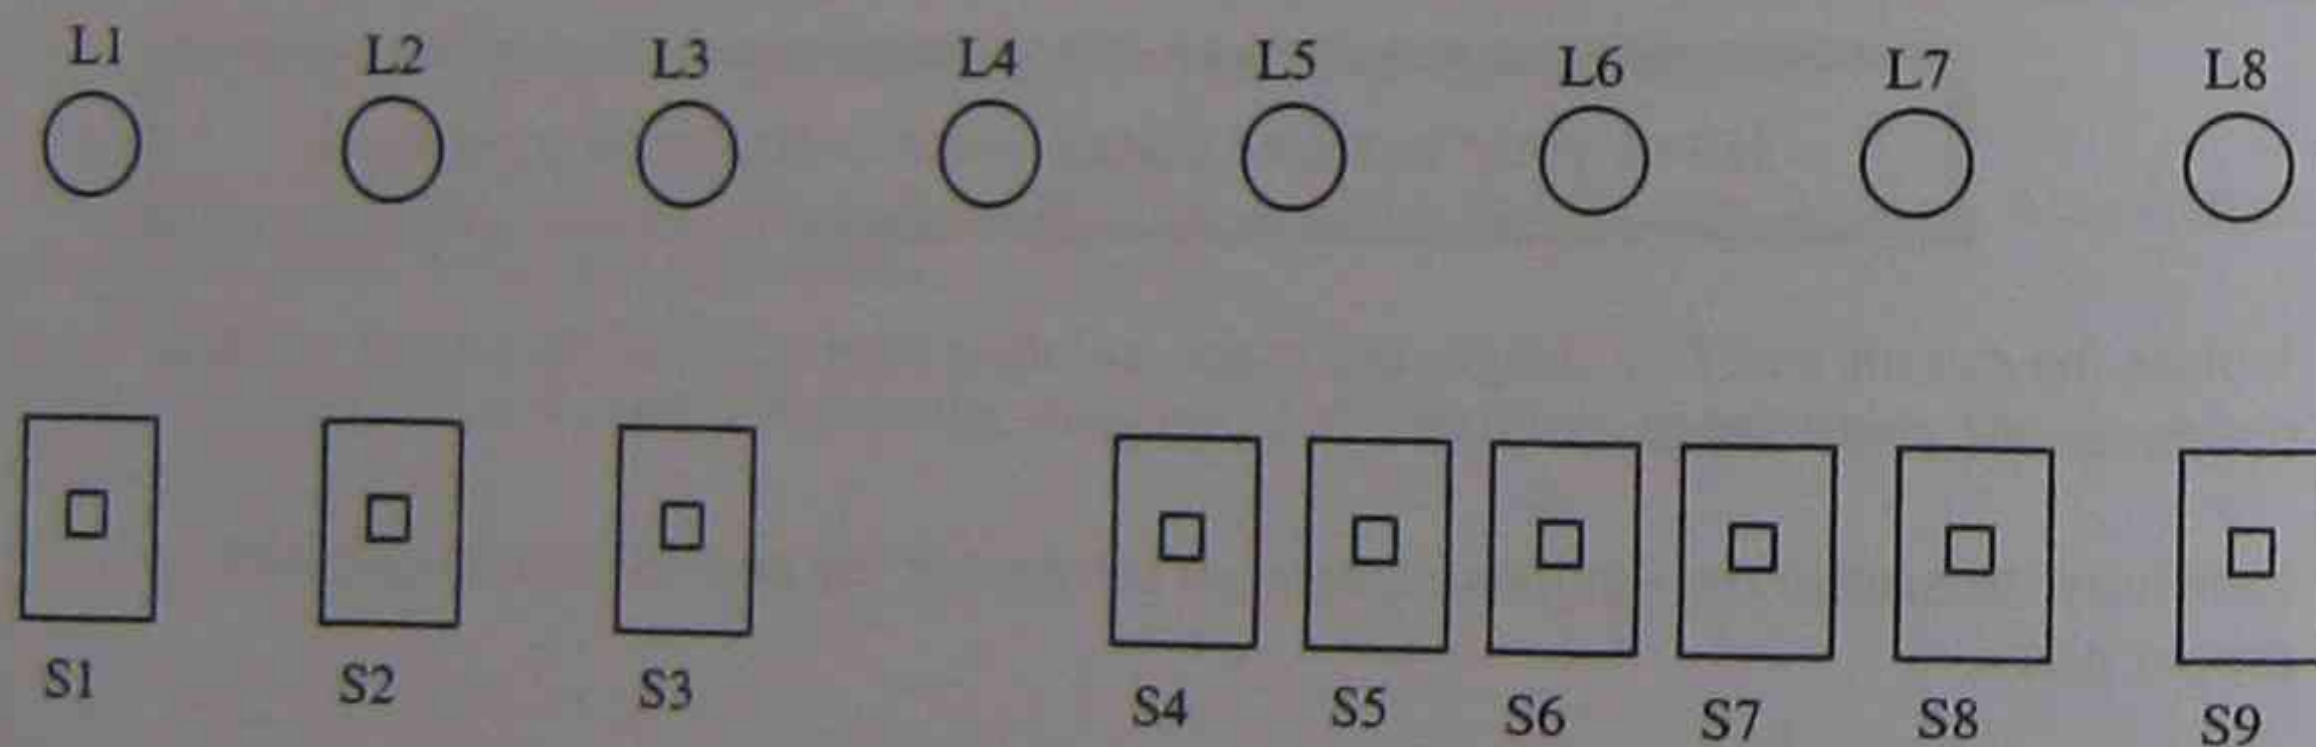

Figure 14 Lighting circuit cable arrangement
3. Complete the diagram of Figure 14 by drawing the cable arrangement for the lighting circuit. TPS cables and the 'loop at the light' method of wiring are to be used. On the diagram clearly show the types of cable to be used (eg SDI, twin, twin and earth).